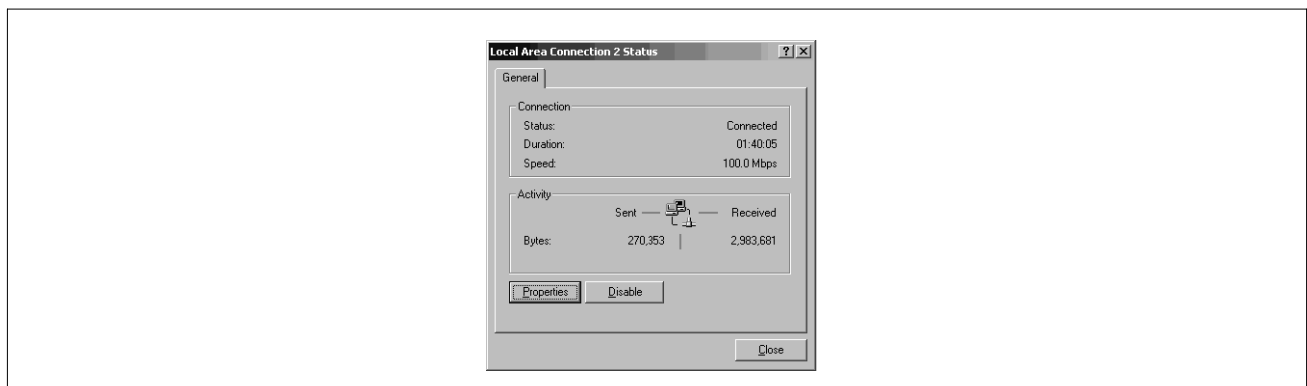

Figure 12. Local Area Connection Status Screen
2. Select **Local Area Connection** and the status screen displays (Figure 12).